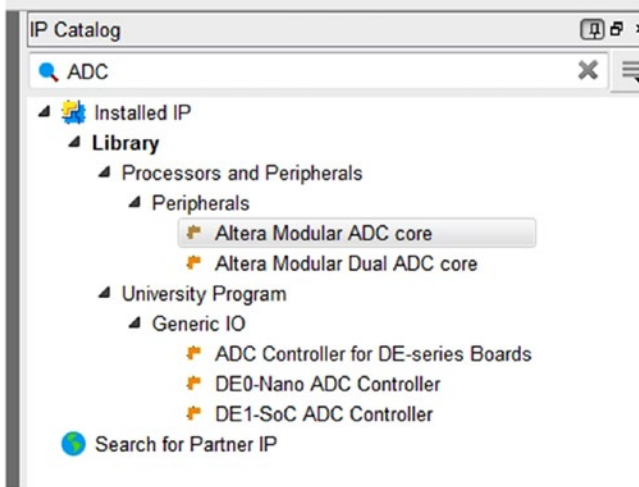

Figure 12-7. *IP Catalog search for ADC*
Step 2: In the IP Catalog, search for ADC, select the Altera Modular ADC core, and double-click it as shown in Figure 12-7.